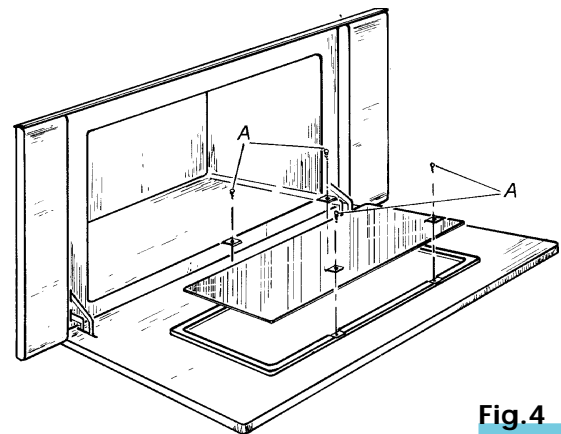

Fig.4
To clean enamelled parts, follow the instructions given for the inside of the oven, using hot water and neither non-abrasive nor acid detergents. In order to clean the inside plate glass of the oven door simply and accurately, it is possible to remove it by loosening the screws (A) as shown in fig.4, while keeping the door completely open.